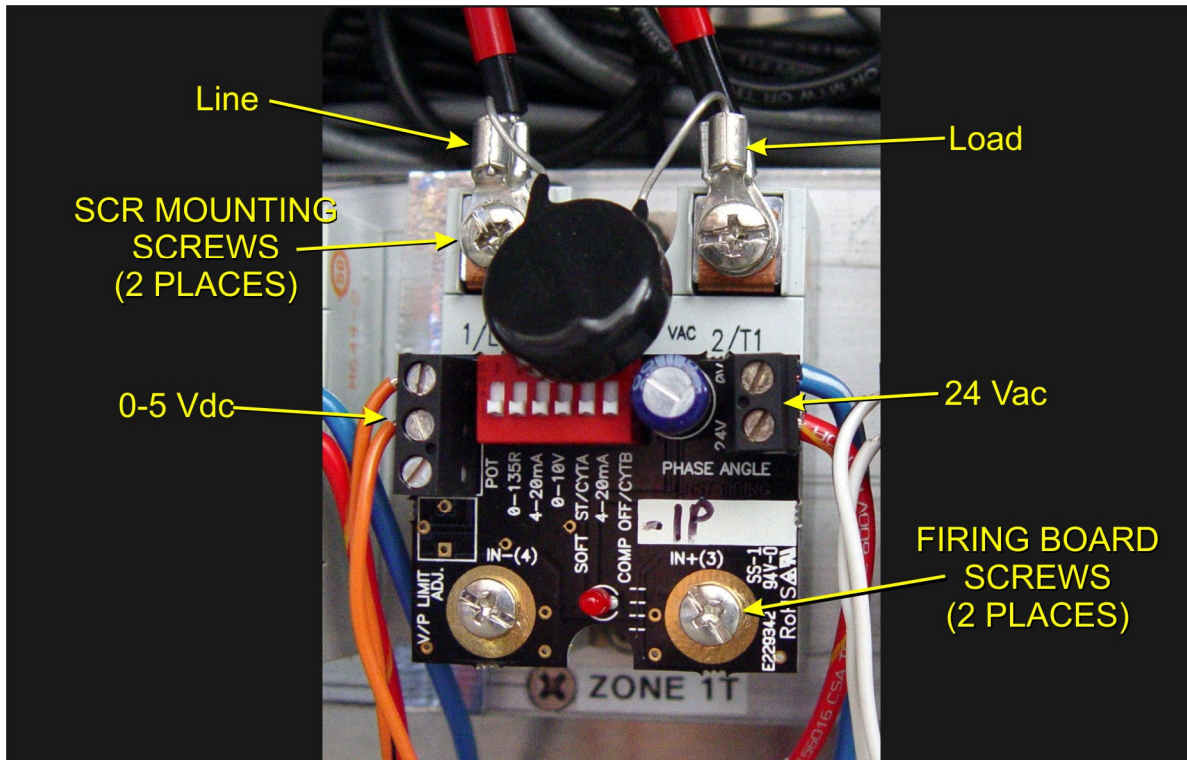

Figure 4-37 SCR installed
To remove the entire SCR assembly, disconnect the 10Vdc and the 24 Vac wire pairs. Unscrew the Line and Load wires. If you are only replacing the firing board, remove the (2) firing board screws. If you are removing the entire assembly, remove the (2) SCR Mounting screws. See **Figure 4-37 SCR installed**